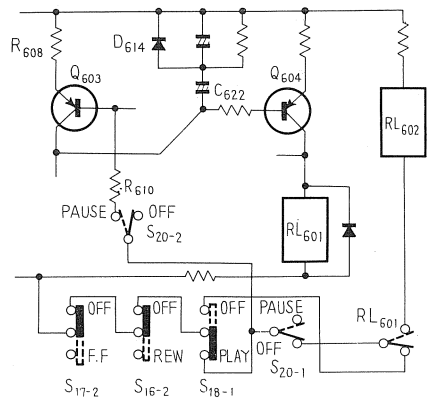

Fig. 31
● **Pause Circuit (Fig. 31)**
2. If, under these conditions, the PAUSE switch is depressed, switches (S20-1, S20-2) go over to the positions indicated by the broken lines, and the base of Q603 is directly biased via R610 ~ S20-2 ~ S18-1 ~ S16-2 ~ S17-2. Q603 comes ON, and C622 is very rapidly discharged via C622 ~ D614 ~ R608 ~ Q603 as shown in Fig. 31.